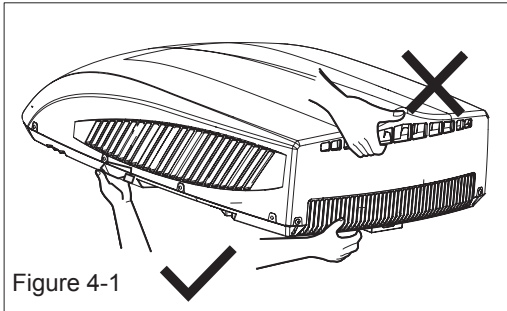

Figure 4-1
- 1) When taking out the outdoor unit after unpacking, do not lift the air outlet grille at the back of outer case(see Figure4-1).